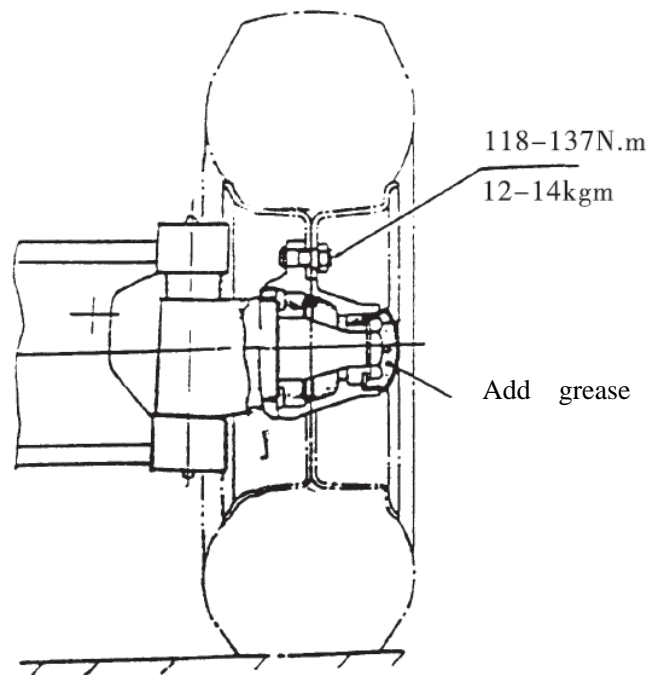

Fig. 3-5 Fill lubricating grease and pre-load adjustment
(1) As shown in Fig. 3-5, fill up the chamber formed by wheel hubs, wheel hub bearings and wheel hub covers with lubricating grease. Coat the lips of the oil seals with lubricating grease.
(2) Press the hub bearing into the hub and fit the hub on the knuckle shaft.
(3) Fit a flat washer and tighten a castle nut to a torque of 206-235Nm (21-24kgm) and